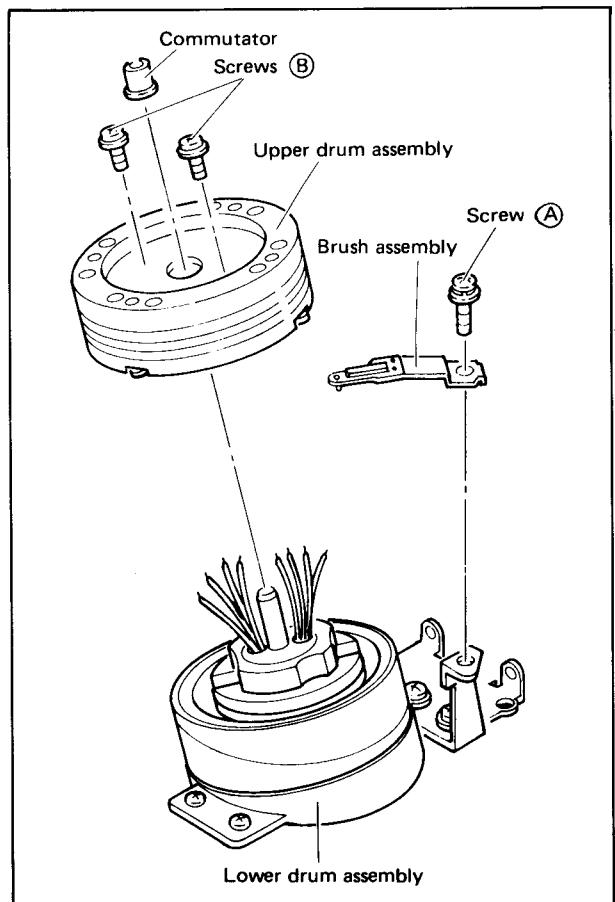

Fig. 4-11
1. Take out screw **(A)** and remove the brush assembly. See Fig. 4-11.